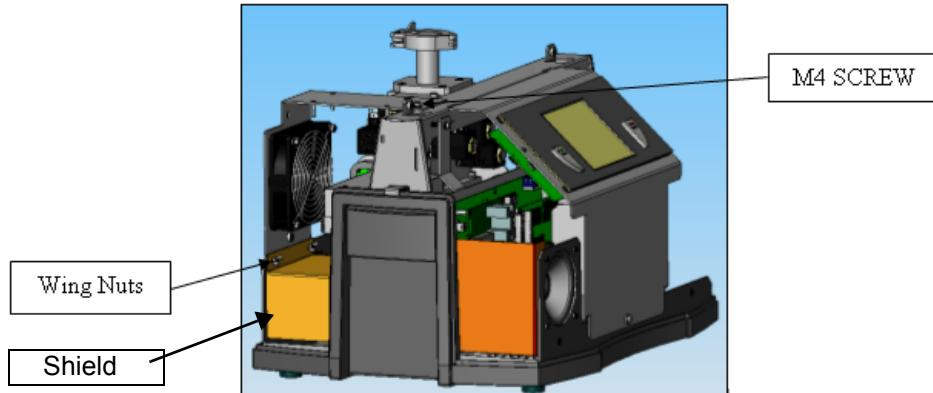

Figure 2: Plastic Shield
5. Remove the two wing nuts holding the plastic shield around the leak detector power input area and remove the shield (“Figure 2: Plastic Shield”).
6. Remove the fan assembly by loosening the M4 socket head cap screw (“Figure 2: Plastic Shield”).
17. Reinstall the (“Figure 2: Plastic Shield”):